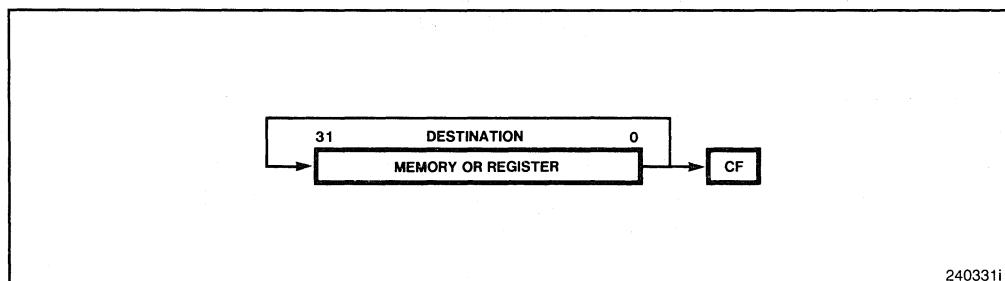

Figure 3-12. ROR Instruction
**ROR (Rotate Right)** rotates the byte, word, or doubleword destination operand right by one bit position or by the number of bits specified in the count operand (an immediate value or a value contained in the CL register). For each bit position of the rotation, the bit which exits from the right of the operand returns at the left. See Figure 3-12.